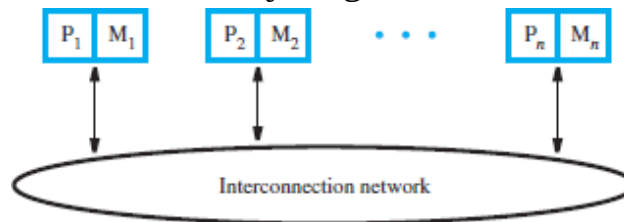

Figure 12.3 A NUMA multiprocessor.
- Memory-modules are attached directly to the processors (Figure 12.3).